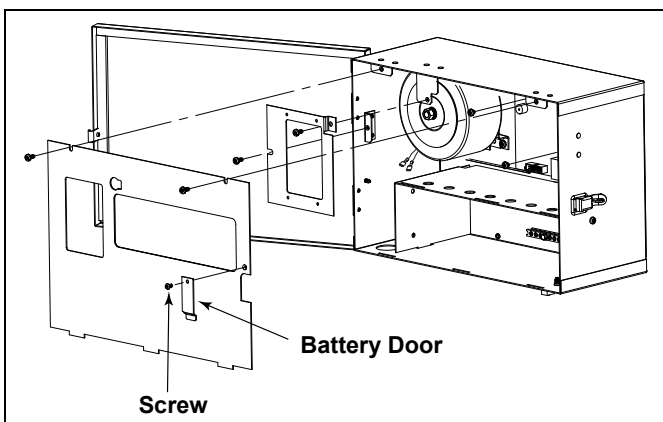

Figure 4. Chlorine Generator Control Center Battery Door
1. Remove the screw from battery door. See Figure 4.